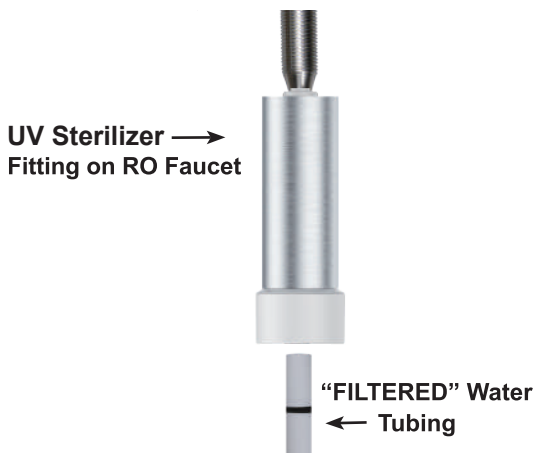

Figure 13
- Insert one end of the tubing into "INPUT" of UV Sterilizer (Figure 13), and pop the lock clip on the fitting.